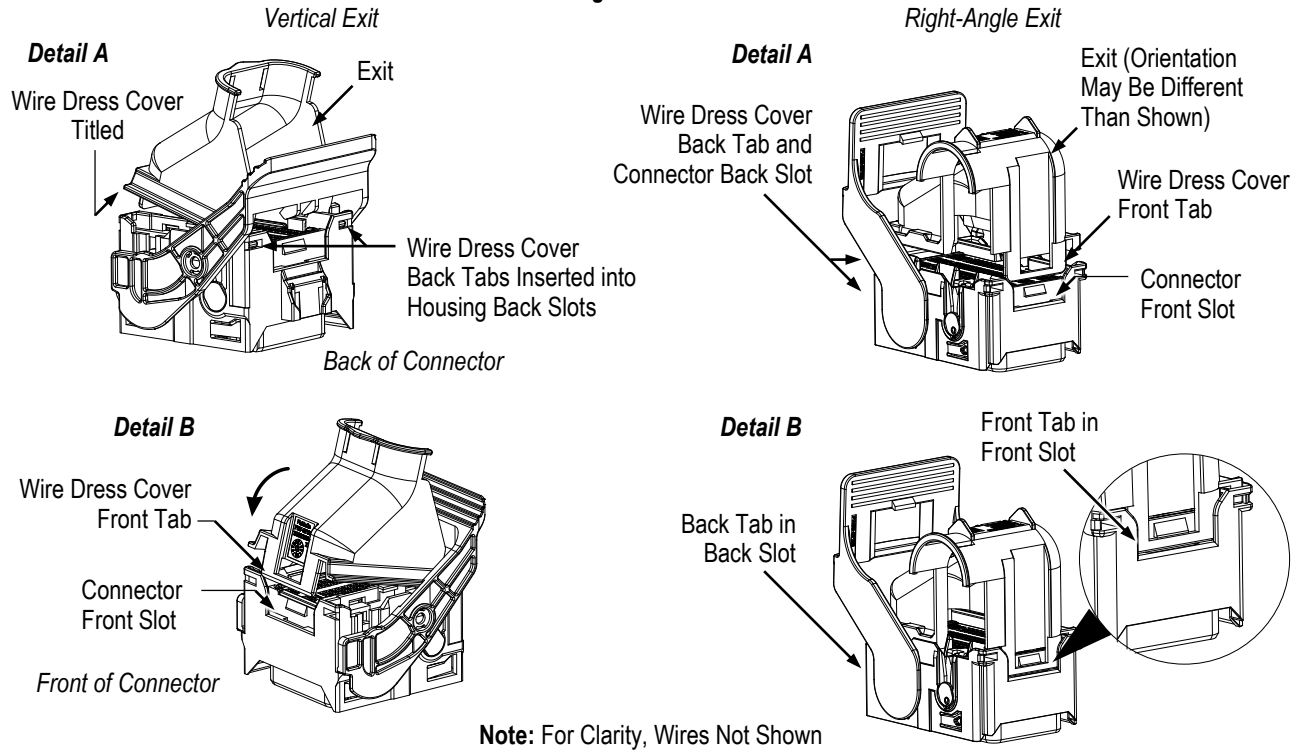

Figure 4
- Position the wire dress cover over the wire end of the connector so that the back tabs align with the housing back slots. Bundle the wires in the exit. Refer to Figure 4, Detail A.
- Tilt the wire dress cover slightly, and insert the back tabs into the housing back slots as shown in Figure 4, Detail A.
- Rotate the wire dress cover until the front tab enters the connector front slot and there is an audible click. Confirm that the back tabs are secure in the back slots. See Figure 4, Detail B.
- Position the wire dress cover over the wire end of the connector so that the front tab aligns with the connector front slot and the back tab aligns with the connector back slot. Bundle the wires in the exit. Refer to Figure 4, Detail A.
- Evenly press the wire dress cover onto the connector until the front tab enters the front slot, the back tab enters the back slot, and there is an audible click from each. See Figure 4, Detail B.
1. Insert the tip of a screwdriver between the wire dress cover front tab and connector front slot (shown in Figure 4), then rotate the screwdriver until the tab releases from the slot.